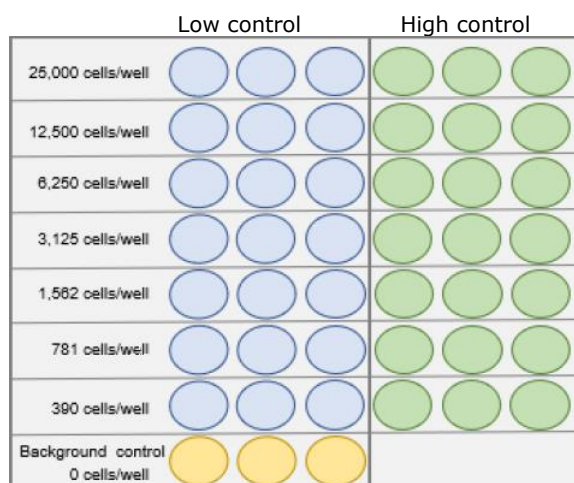

Figure 1: Example of plate arrangement
- 1.1.2. Make serial 2-fold dilution of the cells as shown in Figure 1
- 2.1.2. Make serial 2-fold dilution of the cells as shown in the Figure 1